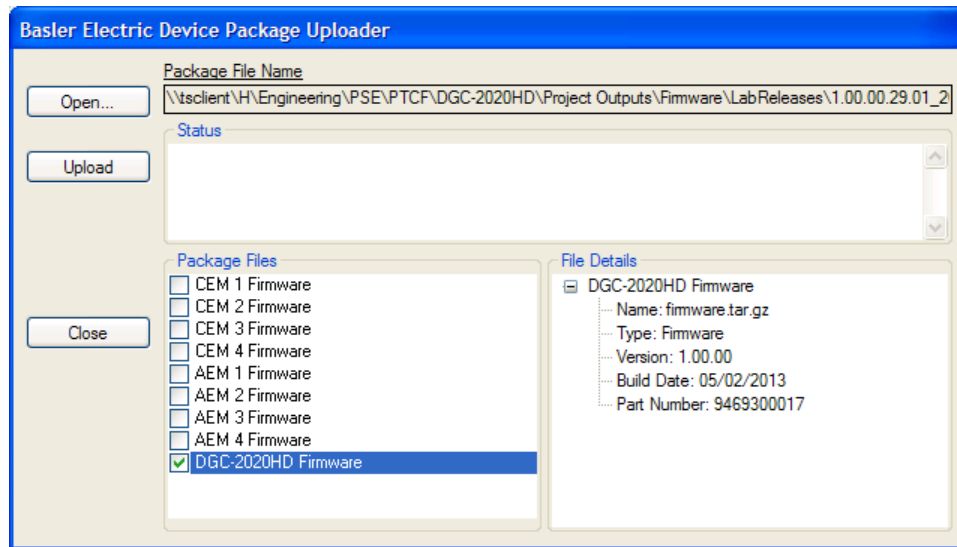

Figure 179. Basler Electric Device Package Uploader
7. When the Basler Electric Device Package Uploader screen (Figure 179) appears, click on the Open button to browse for the device package you have received from Basler Electric. The Package Files along with File Details are listed. Place a check in the boxes next to the individual files you want to upload.